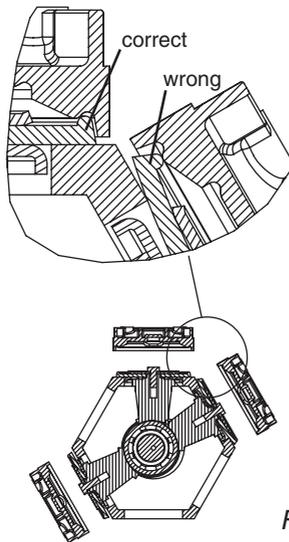

Fig. 31
IMPORTANT: Before tightening the 4 bolts for the diaphragm cover (D) (Fig. 30), the diaphragm must be positioned between center and top stroke to ensure correct sealing of diaphragm between pump housing and diaphragm cover (Fig. 31). Turn crank shaft if necessary.
Note: When tightening the diaphragm cover, the diaphragm must be correctly positioned to avoid permanent damage to the diaphragm. If the diaphragm is in the "bottom" portion of it's stroke, the edge of the diaphragm will not seat correctly (Fig. 31). This will permanently damage the diaphragm so that it will not seal correctly even if removed and correctly re-assembled. Rotate the crank shaft until the diaphragm is between the "center" and "top" portion of it's stroke.